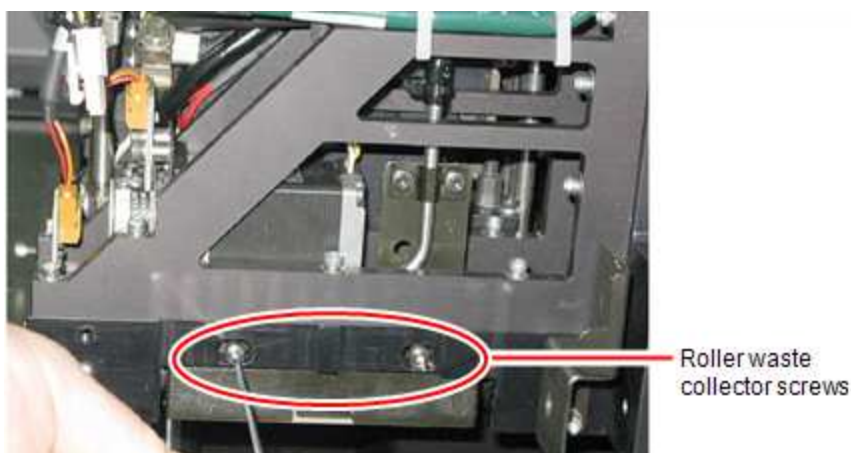

Figure 4-65 Removing the roller waste collector screws
1. Return the roller waste collector to the print block and screw on the covering (see Figure 4-65 on the previous page).